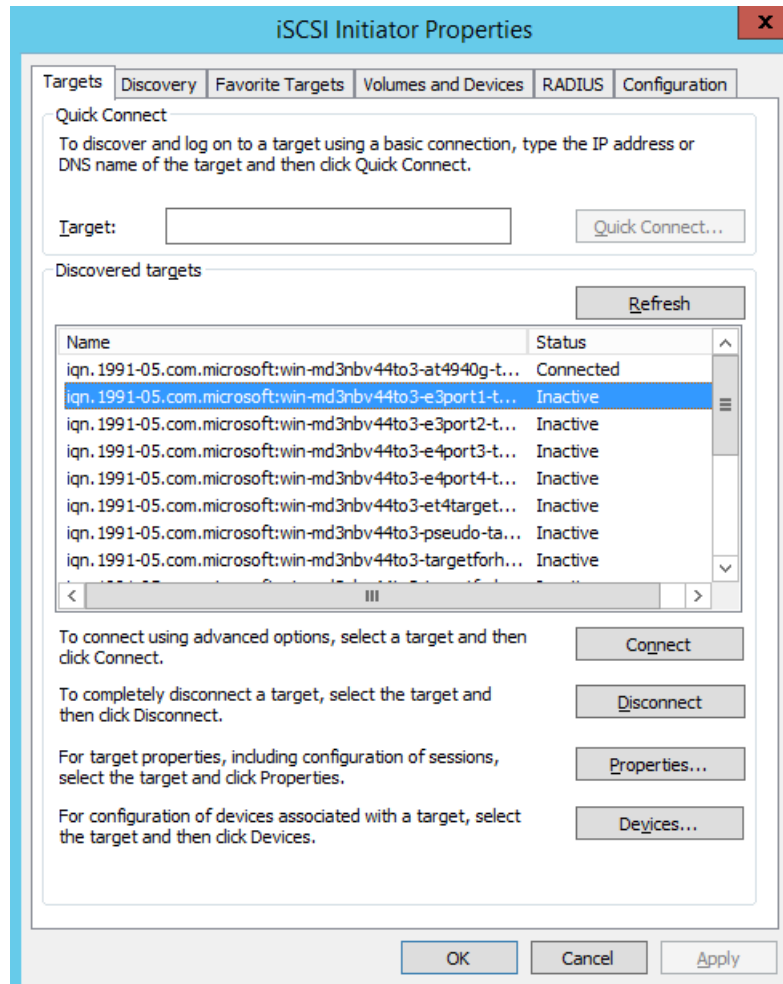

Figure 9-22. Connecting to the iSCSI Target
8. Click the **Targets** tab, and then on the Targets page (Figure 9-22), click **Connect**.